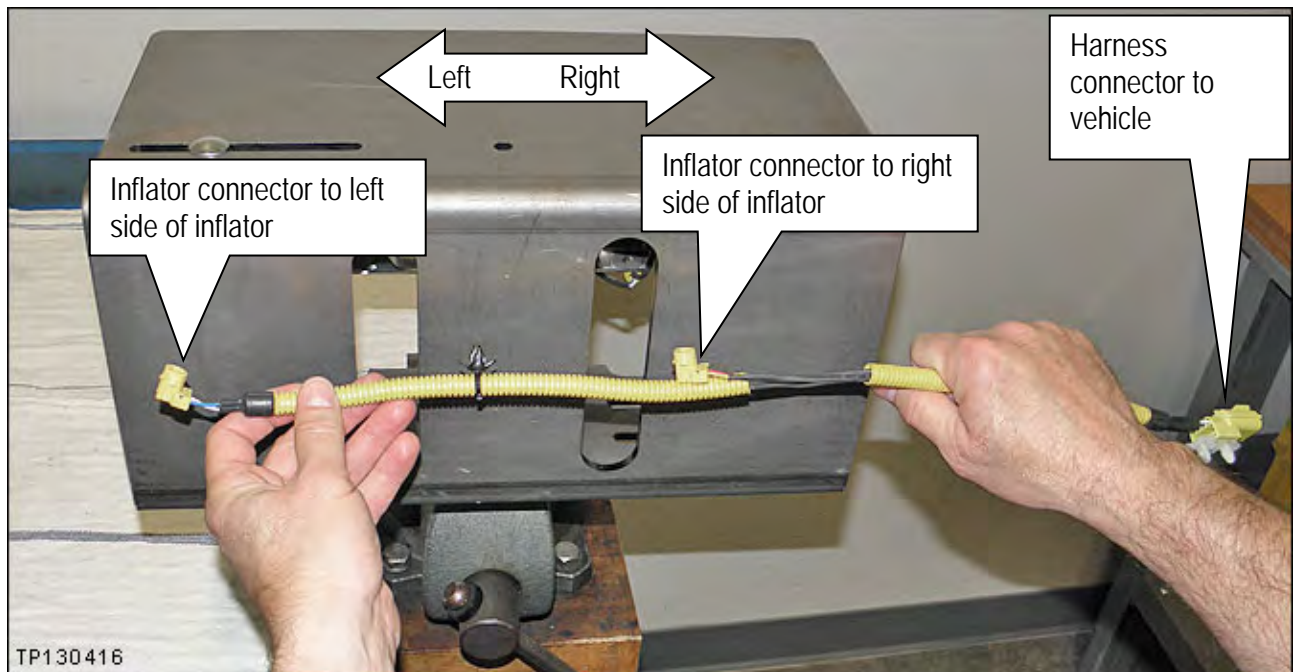

Figure 41
- Make sure to attach the connectors to the correct ends of the inflator (see Figure 41).
- Left / Right orientation is as shown in Figure 41.
- Make sure to attach the correct ends (see Figure 41 on the previous page).